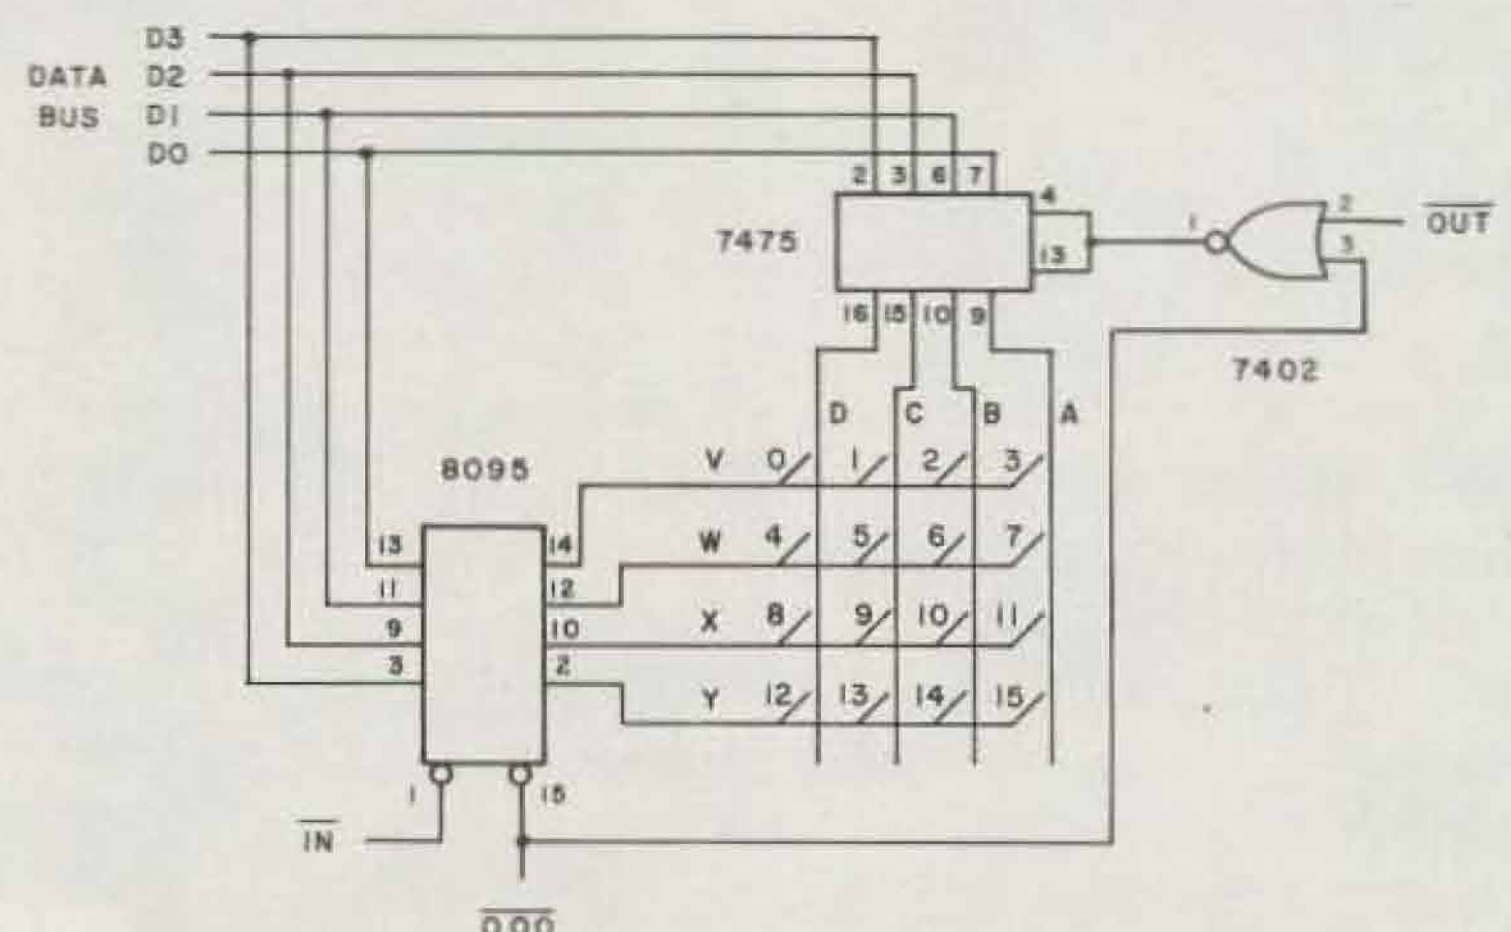

Fig. 3. The interface for a 4 x 4 matrix keyboard.
Another type of keyboard that is often used with microcomputers is a *scanned* keyboard. This type of keyboard, like a multiplexed display, requires very little interface hardware but requires a large amount of software. Typically, scanned keyboards are used in calculators, microwave ovens, single-board microcomputers, and low-cost microcomputer-based games. The interface for a 16-key keyboard, arranged as four columns of four keys, is shown in Fig. 3. The software that causes the 8080 to scan the keyboard and generate a unique code for each key is listed in Fig. 4. This software has to perform many of the functions that were previously performed by the hardware-encoding logic. For instance, the software must (1) sense a key closure, (2) debounce the key closure, (3) determine which key is pressed, (4) generate a unique key code for the key that is pressed, (5) wait for the key to be released,